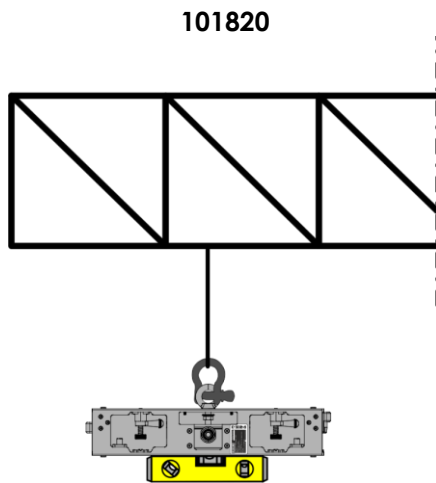

Fig. 09
- 02) Make sure that the rigging bar setup is leveled, as shown in Fig. 09 and 10.